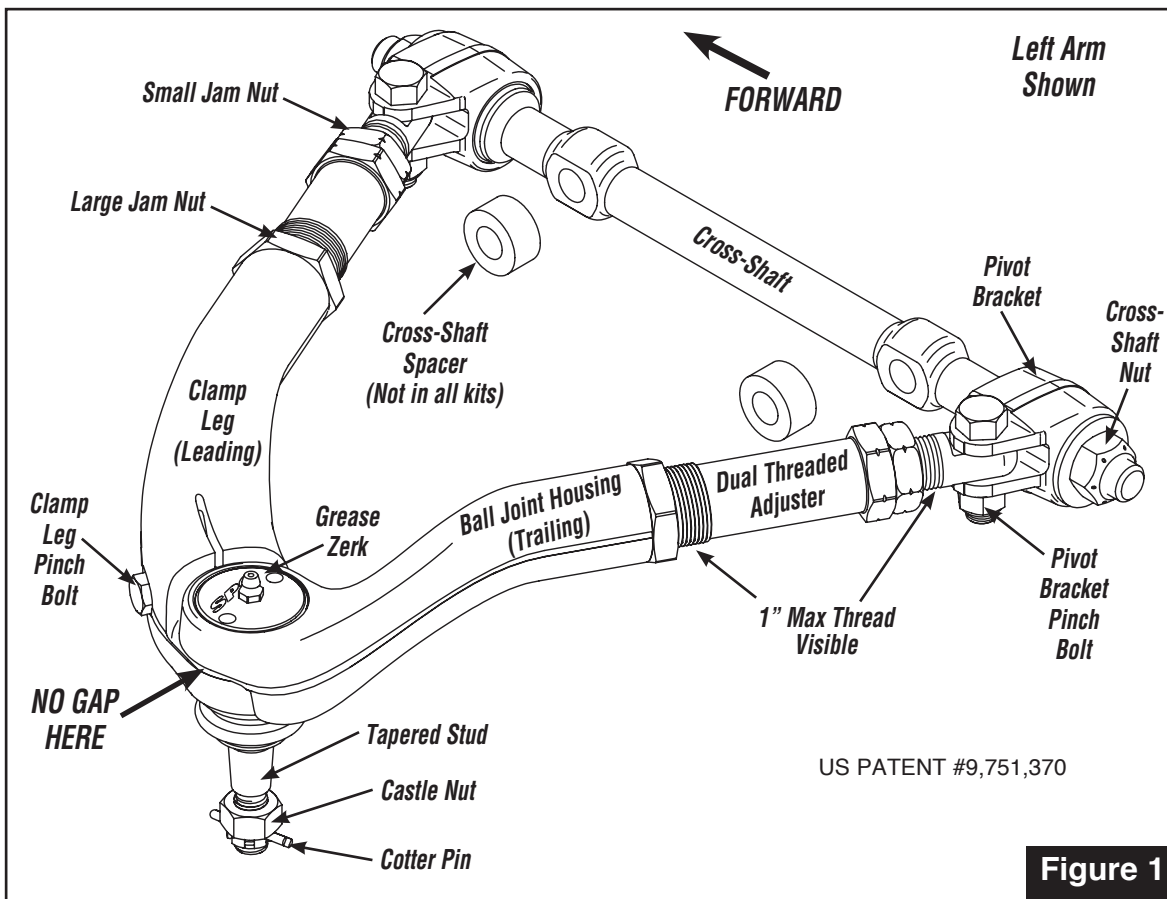

Figure 1
2. Adjust SPC adjustable control arm to approximate OE dimensions. Control arm leg with ball joint housing should be trailing leg and clamping leg of control arm should be leading. Loosely install all hardware per figure 1. Ensure equal thread is visible beyond both large and small jam nuts when seated.
5. Verify there is no gap between ball joint housing and clamp leg, then snug pinch bolt on clamp leg to keep both halves together. (See Figure 1)